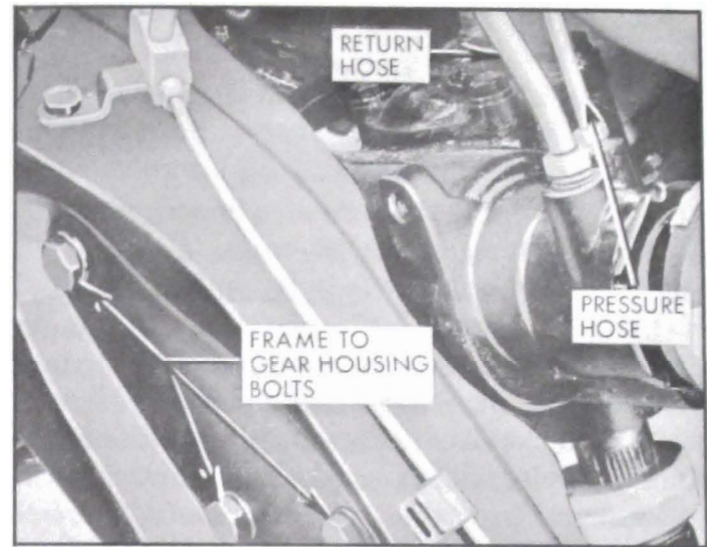

Figure 8-22—Power Steering Gear Attaching Bolts
5. Remove the three frame-to-steering gear bolts at outside of left frame rail. See Figure 8-22.